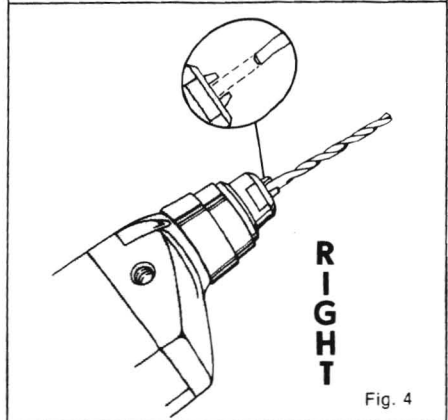
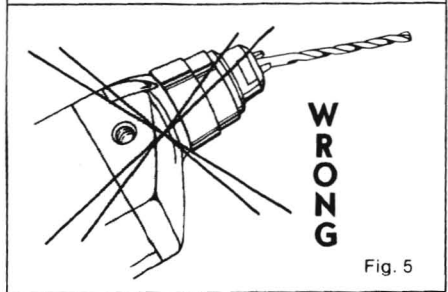

Fig. 4
Fig. 5
7. Insert your drill bit into chuck the full length of the jaws as shown in Figure 4. **WARNING: DO NOT INSERT DRILL BIT INTO CHUCK JAWS AND TIGHTEN AS SHOWN IN FIGURE 5. THIS COULD CAUSE DRILL BIT TO BE THROWN FROM YOUR DRILL RESULTING IN POSSIBLE SERIOUS PERSONAL INJURY OR DAMAGE TO YOUR CHUCK.**